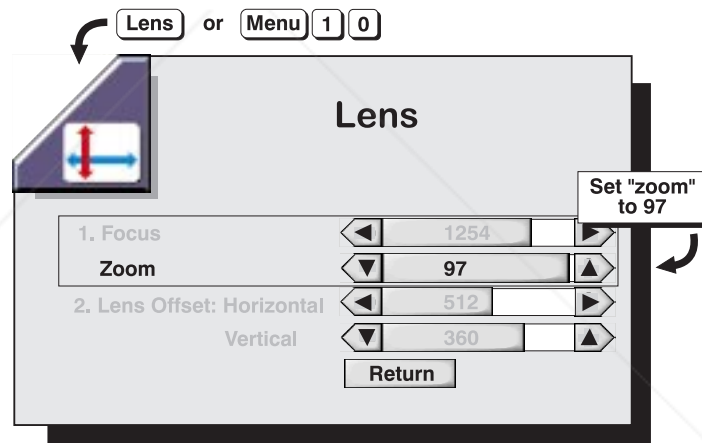

Figure 4-12. Set “Zoom” to 97
- d) On the keypad, press **Lens** or **Menu** **1** **0** to access the *Lens* menu. Set the lens *Zoom* setting to 97 (maximum). See Figure 4-12.